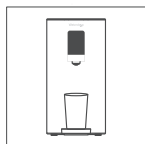

Figure 1
Step 1: Place a glass or cup on the drip tray (Figure 1).